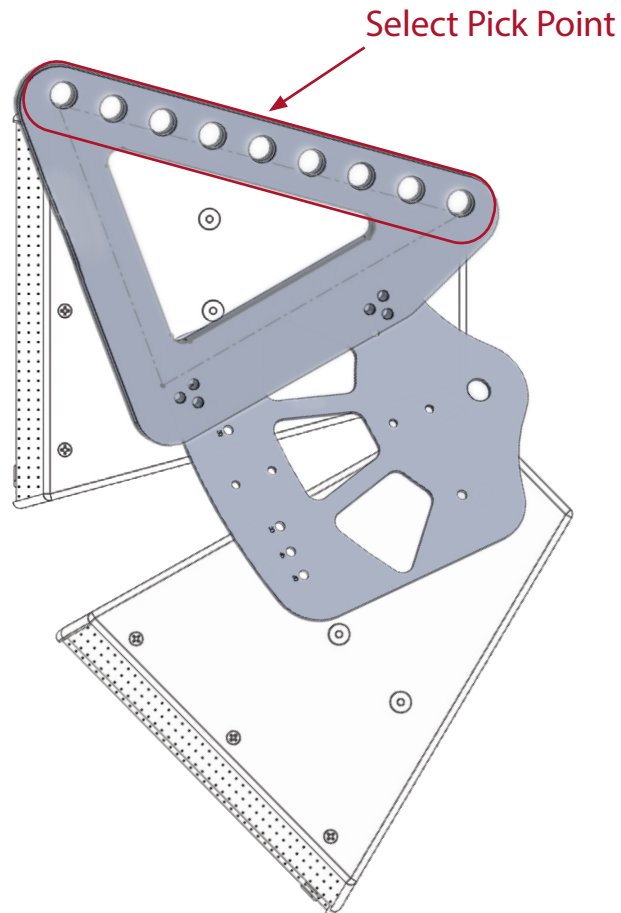

Figure 5 - Select Pick Point
6. Using pick point designated by Resolution 2, attach shackle to two points. This may either be two points on the Suspension Bracket (Figure 5), or two points on the Cabinet Bracket (more information on Cabinet Bracket configuration later in this document)